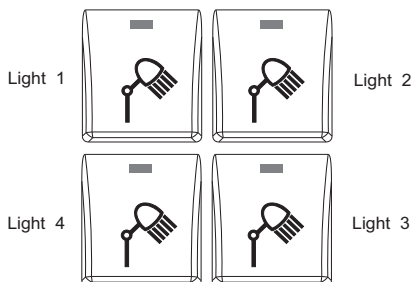

Figure 3-42. Light Fixture ON-OFF Buttons
- See Figure 3-42. Switch lights ON (I) by pressing the light ON-OFF buttons.